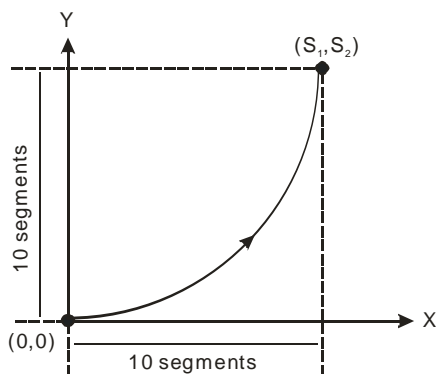
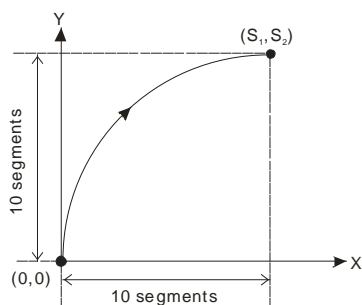
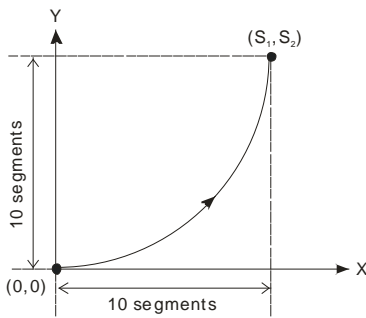

Figure 3
Figure 1
Figure 3
- The lower 16 bits of **S** (settings of direction and resolution): K0 refers to clockwise 10-segment (average resolution) output; K2 refers to clockwise 20-segment (higher resolution) output and a 90° arc can be drawn (see figure 1 and 2). K1 refers to counterclockwise 10-segment (average resolution) output; K3 refers to counterclockwise 20-segment (higher resolution) output and a 90° arc can be drawn (see figure 3 and 4).